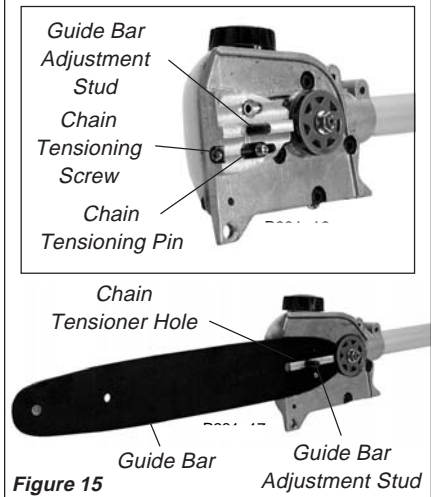

Figure 15
2. Place the guide bar over the guide bar adjustment stud on the cutting head assembly. Align the chain tensioning pin with the hole in the guide bar. See Figure 15.